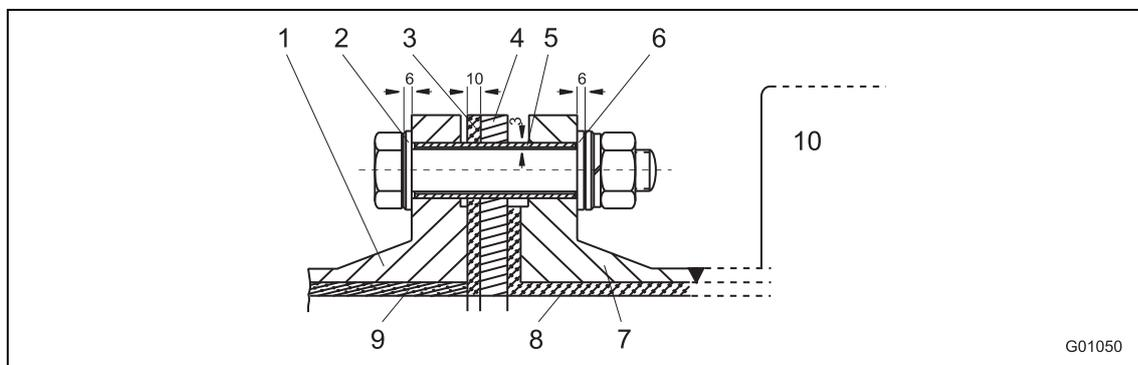
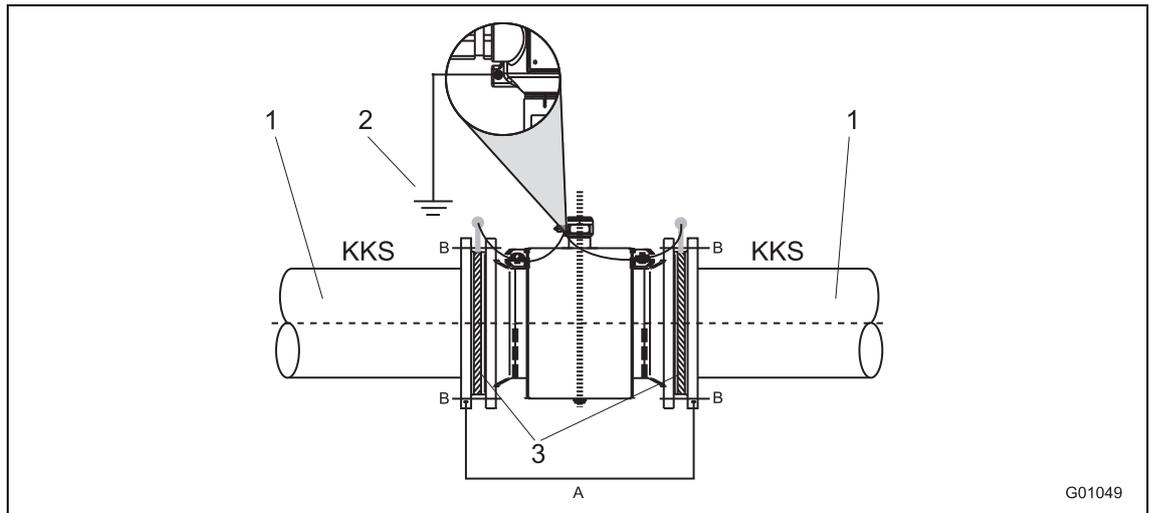

Fig. 29: Bolt screw view
Fig. 30: Flowmeter sensor with grounding plate and functional ground
- When installing an EMF in pipes with insulating inner lining and free from foreign matter, it should be insulated with grounding plates on the upstream and downstream side. The CCP potential is diverted. The grounding plates upstream and downstream of the EMF are connected to functional ground (Fig. 29 / Fig. 30).